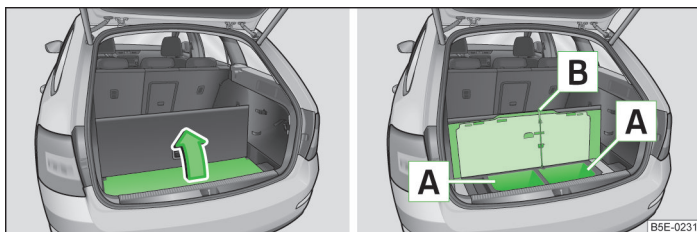

Fig. 90 Lift floor covering/storage compartments under the floor covering
- Remove the fog floor covering in the direction of the arrow » Fig. 90.